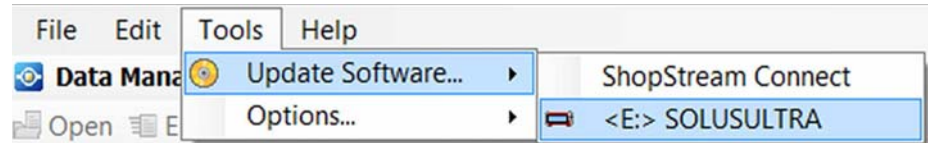

Figure 8-3
1. Select **Tools > Update Software > (diagnostic tool type - e.g. MODIS, SOLUS PRO, Vantage Ultra etc.)** from the Menu bar (Figure 8-3).